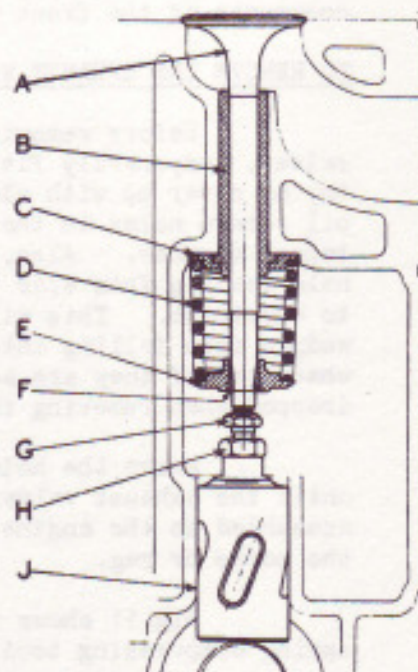

FIG. 13. ARRANGEMENT OF EXHAUST VALVE WITH BRONZE GUIDE.
**NOTE:** On certain early chassis, cast iron valve guides were fitted. Subsequently, bronze valve guides (B, Fig. 13) with retaining flanges were introduced together with a top washer (C).
Should this washer become dislodged when removing the valve spring, smear with grease and replace it in position as shown in Fig. 13.